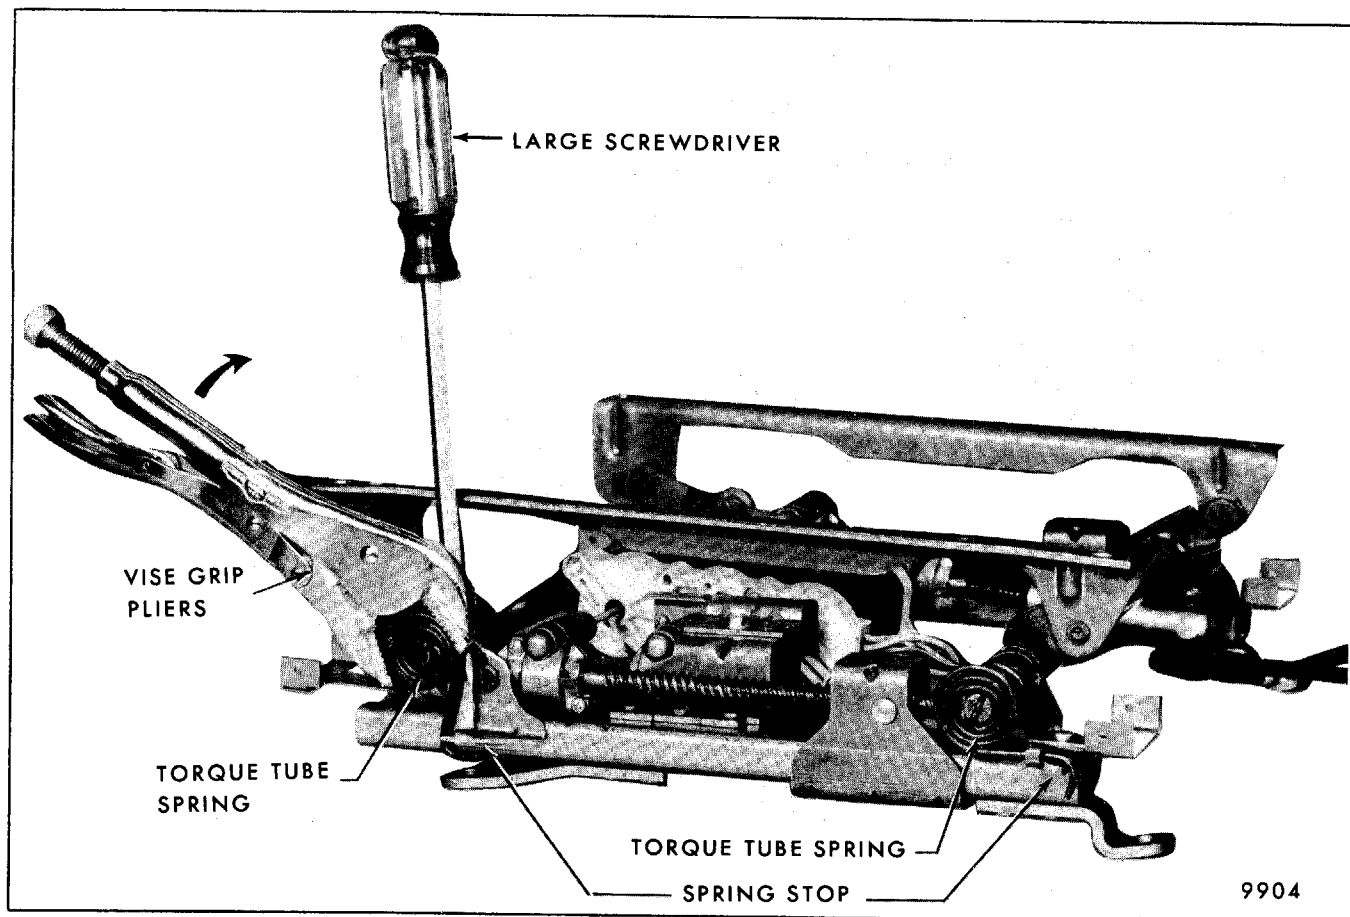

Fig. 9-57 - Six-Way Seat Adjuster Vertical Torque Springs - Cadillac 6CB69 Only
2. Using a vise grip pliers and a large screwdriver, as shown in Figure 9-57, carefully turn spring until hook end of spring can be carefully pried from spring stop.
engagement. After engagement with stop, spring must be tapped into full engagement in slot on end of torque tube (Fig. 9-57).